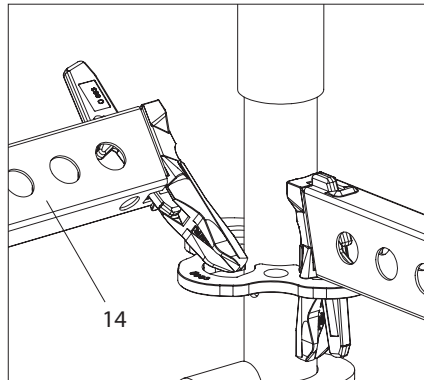

Fig. A3.04a
1. Place Horizontal Ledger UH (14) or UHV diagonally on both rosettes and set vertically. (Fig. A3.04a)